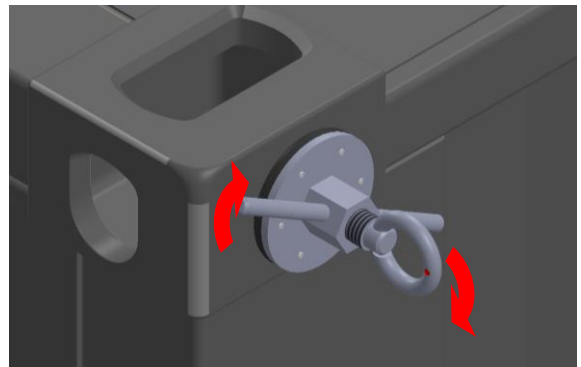

Fig. 12 Tightening the pressure nut on the NPK
- Tighten the pressure nut using the connected rods (fig. 12).